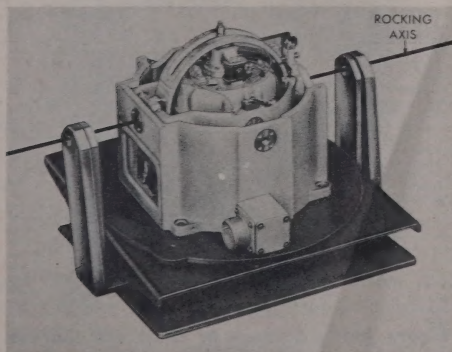
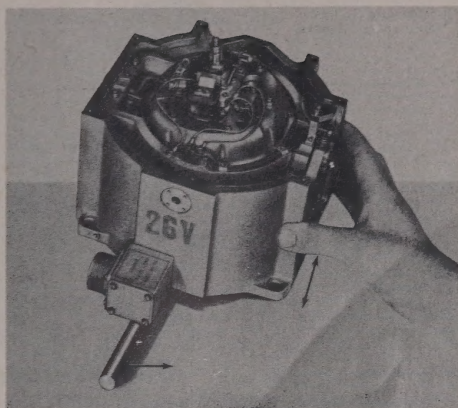

Figure 212 — Rocking Table
Figure 213 — Rocking to Determine Rotor and Case Balance About Plane 1 (Axis 1)
1. If a rocking table (figure 212) is not available, place a cylindrical object (such as a piece of pipe or wooden dowel at least ¾-inch in diameter) under the housing directly below the rotor case bearing. By grasping the housing, as shown in figure 213, and moving the edge of the housing up and down, as indicated, it is possible to rock the housing on the roller rapidly and evenly to relieve the static friction on the bearings, in the same manner as this is done on a rocking table. By relieving the static friction on the bearings in this way, any slight unbalance, which was not enough to overcome the static friction of the bearings when it was stationary, will cause the heavier side to rotate toward a lower position. *An even rocking motion is absolutely necessary.*